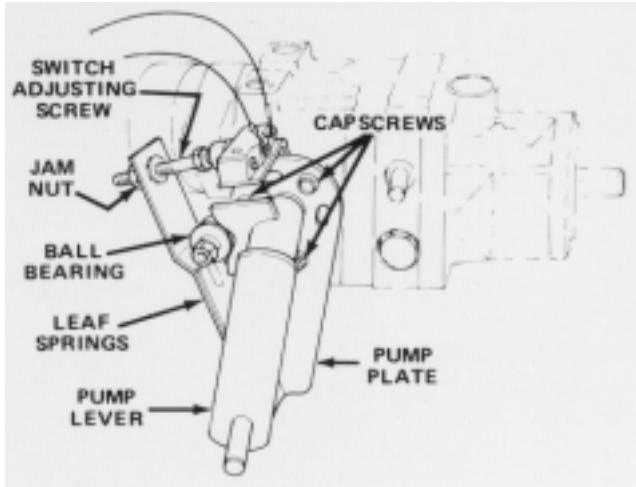

Figure 58
1. Park vehicle on a level surface and turn engine off. Apply the parking brake, tip seat forward, and actuate pump lever (Fig. 58) to ensure assembly is properly seated and operating freely. Correct any discrepancy.
6. Because the wheel is rotating, the pump plate must be adjusted. But before adjusting the pump plate, move throttle to SLOW. If wheel is rotating forward, loosen capscrews, and lightly tap bottom of pump plate counterclockwise (Fig. 58). By contrast, tap pump plate clockwise if wheel is rotating backward (Fig. 58). When
11. Because the wheel is rotating, the pump plate must be adjusted. But before adjusting the pump plate, move throttle to SLOW. If wheel is rotating forward, loosen capscrews, and lightly tap bottom of pump plate counterclockwise (Fig. 58). By contrast, tap pump plate clockwise if wheel is rotating backward (Fig. 58). When wheel stops rotating, tighten capscrews holding pump plate against side of transmission. Verify the adjustment with throttle in SLOW and FAST position.
- Ball bearing is loose or worn out (Fig. 58).
- Weak or damaged leaf springs (Fig. 58). Replace.
2. Actuate the pump lever (Fig. 58) to ensure all parts are operating freely and seated properly.
3. Loosen jam nut. Rotate switch adjusting screw (Fig. 58) until there is a gap between head of screw and switch button.